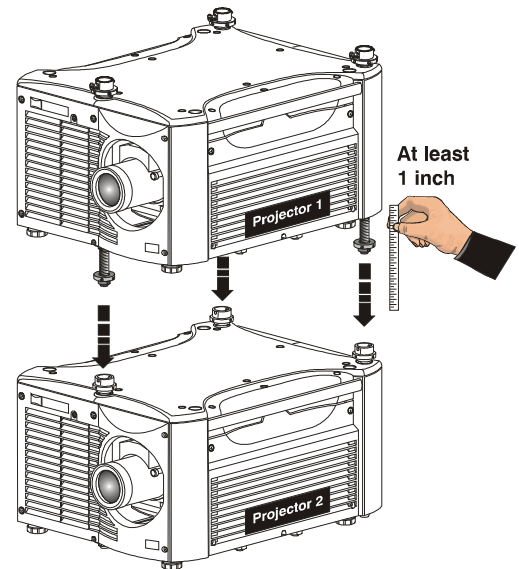

Figure 2-12 Extend 3 Stacking Legs (UPRIGHT STACK SHOWN)
Extend the stacking legs (3) by turning them so that at least 1 inch of thread is visible on each. This clearance accommodates the up-or-down movement for aligning the images from the stacked projectors. Ensure that you extend all 3 legs equally (see *Figure 2-12*) so they are level.
IMPORTANT! Ensure the stacking legs are extended at least 1 inch and are slightly loosened. Refer to *Figure 2-12*.